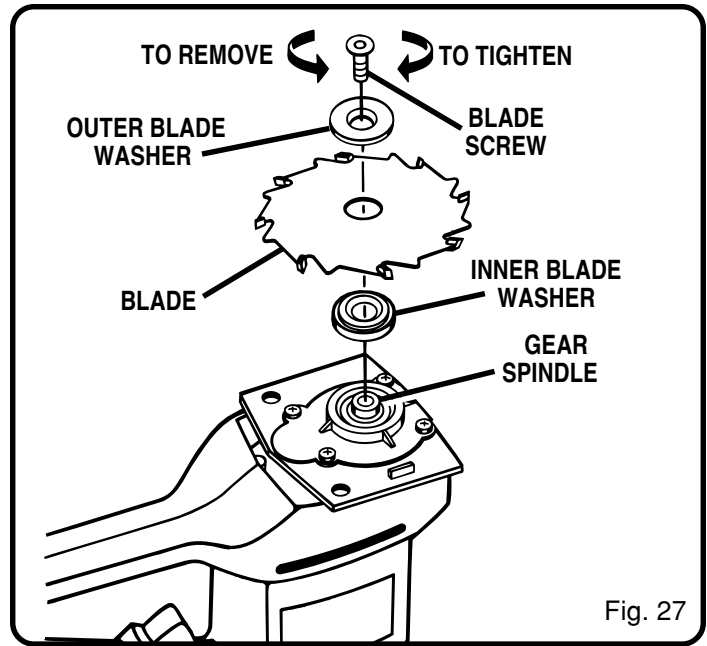

Fig. 27
11. Using a 3/16 in. wrench, remove blade screw. **NOTE:** Turn blade screw counterclockwise to remove. See Figure 27.
14. Place inner blade washer on gear spindle. See Figure 27.